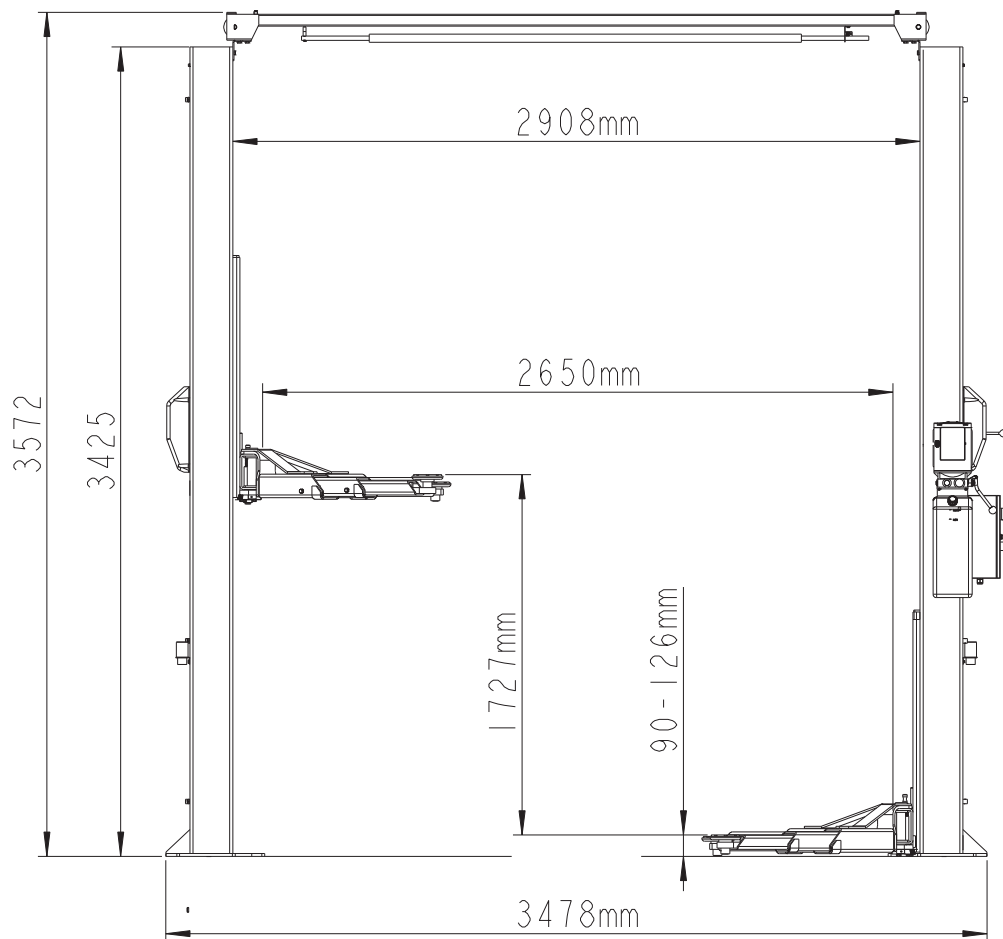
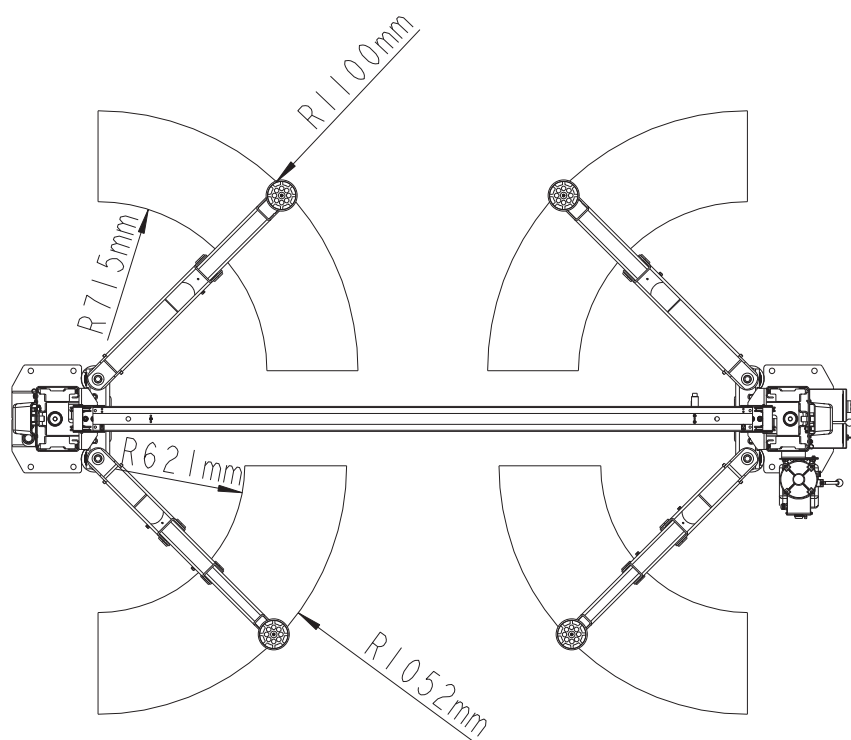

Fig.1a
Fig.1b
1. Lift Location: Use architects plan when available to locate lift. Fig. 1a & Fig. 1b shows dimensions of a typical bay layout.
4. Lift Setting: Position columns in bay using dimensions shown in Fig. 1a & Fig. 1b. Place column with power unit mounting bracket on vehicle passenger side of lift. Both column base plate backs must be square on center line of lift. Notches are cut into each base plate to indicate center line of lift. Use appropriate equipment to raise carriage to first latch position. Be sure locking latch is securely engaged.